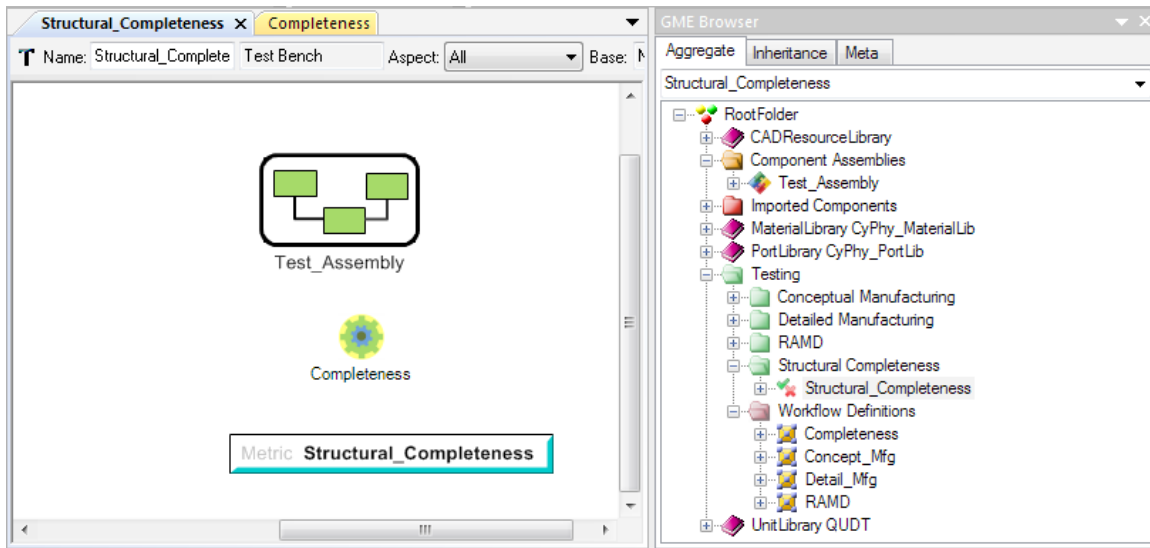

Figure 6: “Structural_Completeness” Test Bench.
Now open the “Structural_Completeness” test bench and drag/drop the “Completeness” workflow definition and one (1) metric (from Part Browser) into test bench. Metric must be named “Structural_Completeness” as shown in Figure 6 (this is what is searched for in the testbench_manifest.json file).